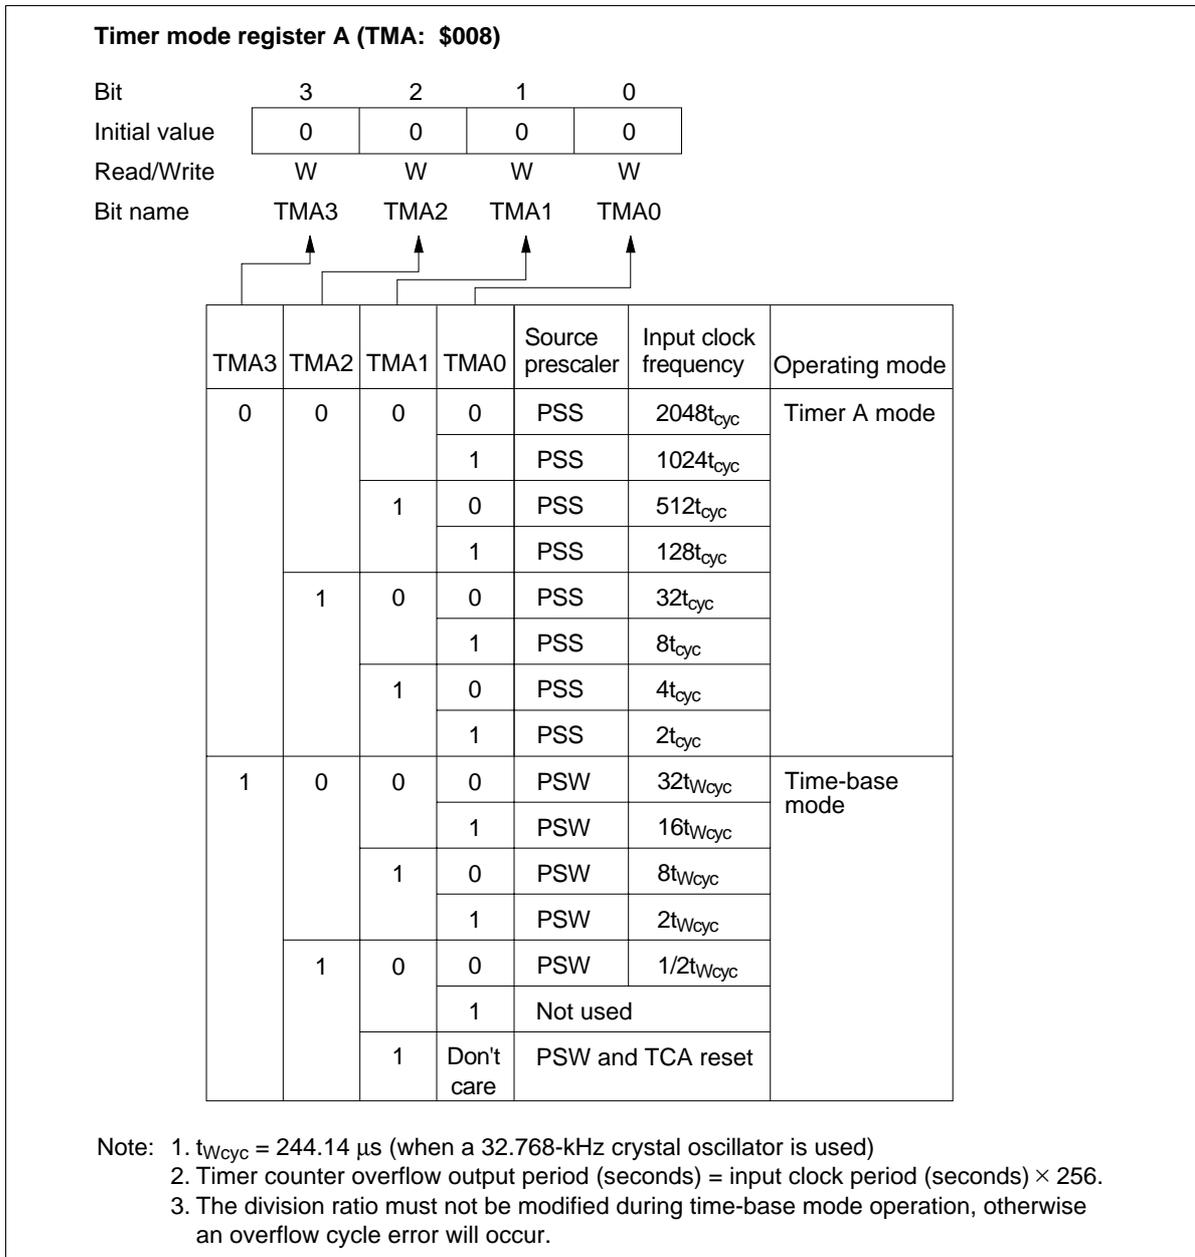

Figure 42 Timer Mode Register A (TMA)
- Timer mode register A (TMA: \$008): Four-bit write-only register that selects timer A’s operating mode and input clock source (figure 42).